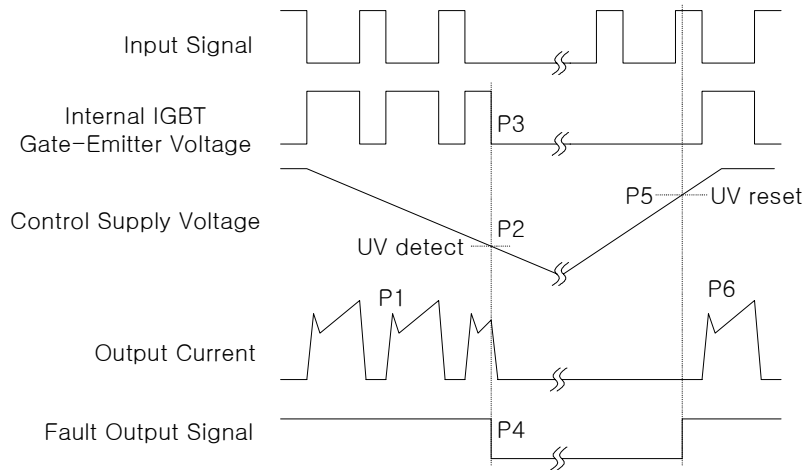

**Fig. 9. Mounting Screws Torque Order**
- 8. Avoid one side tightening stress. Fig.9 shows the recommended torque order for mounting screws. Uneven mounting can cause the SPM ceramic substrate to be damaged.